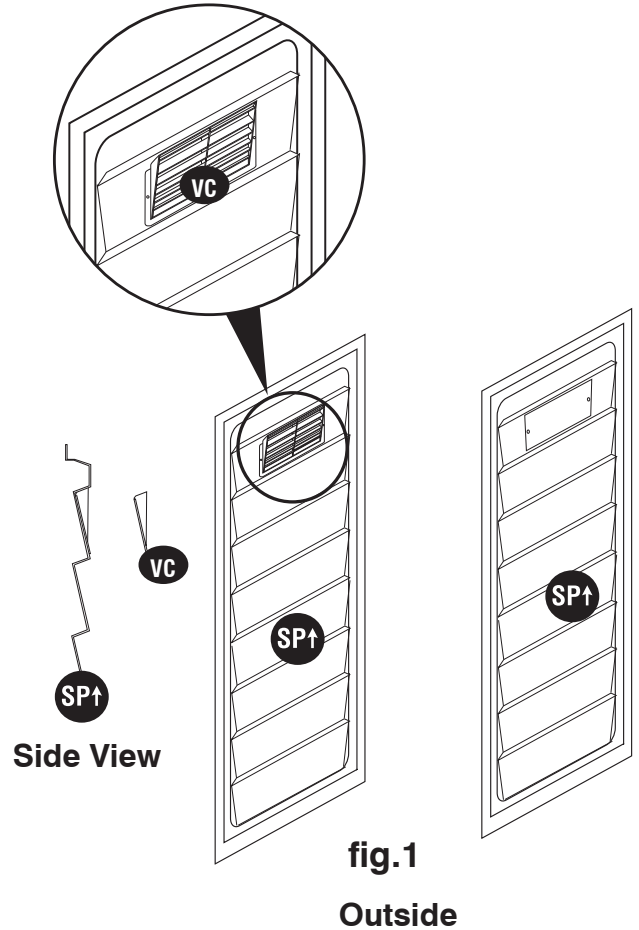

fig.1
1. Place the **ventilation cover (VC)** as shown in fig.1. Using a pencil, mark the two side hole locations.